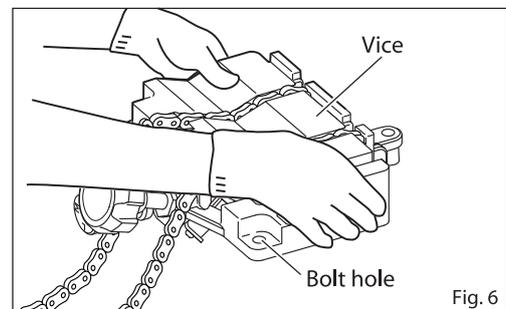

Fig. 6
- (2) Lift the vice up off the base. (Fig. 6)